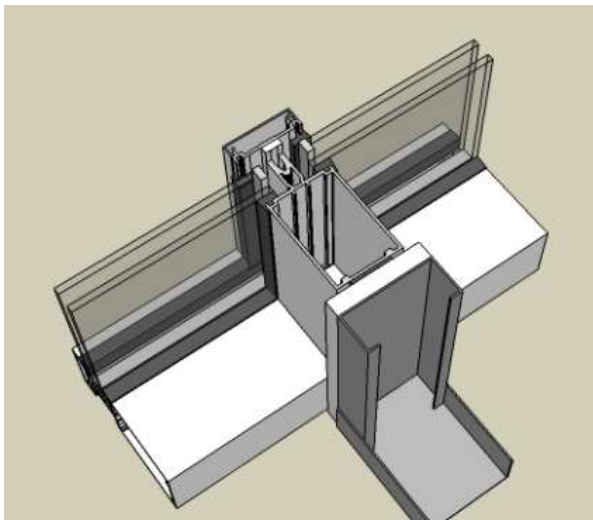

Figure 2: Install end stud with board attached
4. Attach gypsum board(s) to the web of the end stud. Remove cover strip, place in position (Fig. 2) and set firmly in place applying continuous pressure.